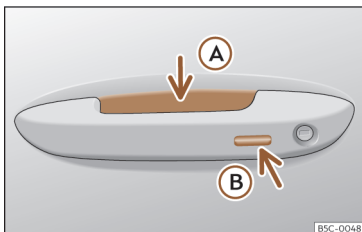

Fig. 79 Door handle: sensor surfaces
>>> Fig. 79
»» **Fig. 79 A** (arrow) of the handle and the vehicle unlocks.
»» **Fig. 79 B** (arrow) on one of the front door handles. The door that is used must be closed.
- Touch (*once*) the sensor surface»» **Fig. 79 B** (arrow) on one of the front door handles. The vehicle locks with the “Safe” security system»» page 103 . The door that is used must be closed.
- Touch (*twice*) the sensor surface»» **Fig. 79 B** (arrow) of one of the front door handles to lock the vehicle without activating the “Safelock” security system»» page 103 .
- Push the central locking button  on the remote control and touch the locking sensor surface of the driver door handle >>> **Fig. 79**  within the following 5 seconds. Do not grasp the door handle; otherwise the vehicle will not unlock. Deactivation is also possible if the vehicle is locked through the driver's door lock.
To close all the electric windows and the sunroof using the **comfort function**, keep a finger for a few seconds on the locking sensor surface >>> **Fig. 79**  (arrow) of the door handle until the windows and roof have closed.
The sensor surfaces on the door handles could engage if hit with a water jet or high pressure steam if there is a valid vehicle key in the proximity. If at least one of the electric windows is open and the sensor surface >>> **Fig. 79**  (arrow) on one of the handles is activated continuously, all windows will close.
- **OR:** touch the sensor surface on the outside of the door handle *twice*>>> Fig. 79